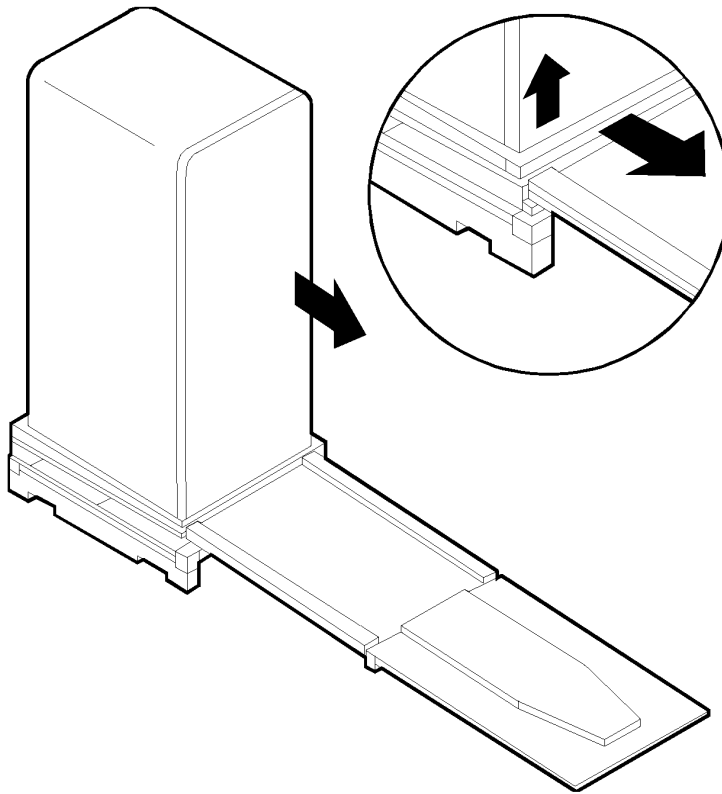

Figure 4-3. Positioning the Ramp
7. Remove the bolts (2), one on each side, from the shipping clamp at the bottom of the frame. They are bolted to the pallet.
8. Remove the clamp (3).
9. Unfold and position the ramp so that the block of wood under the ramp locks into the edge of the pallet, with the strip of wood forming a lip. This holds the ramp in place while the rack is moved across the pallet and down the ramp. See Figure 4-3.